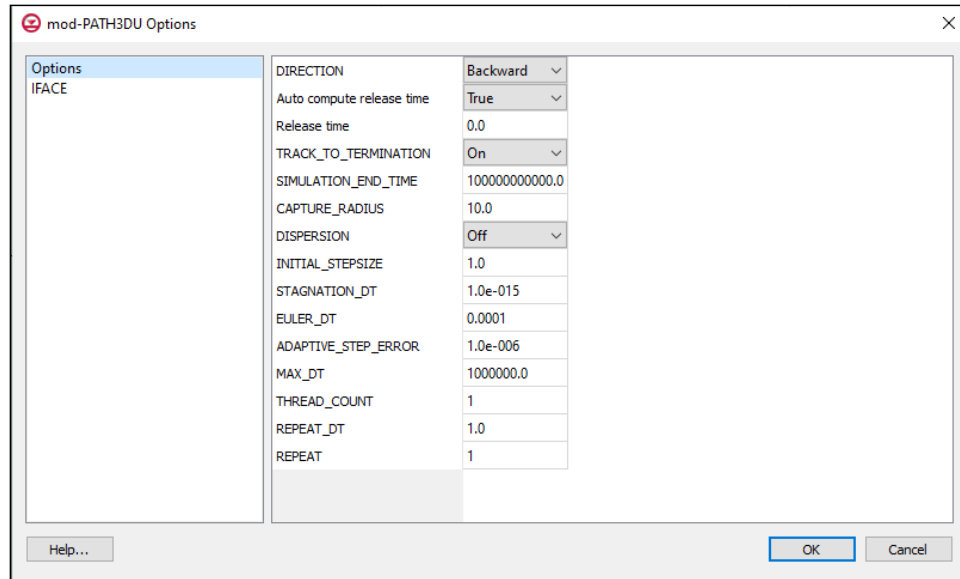

Figure 4 Selecting the direction
- From the *DIRECTION* drop-down, select "Backward" (Figure 4).